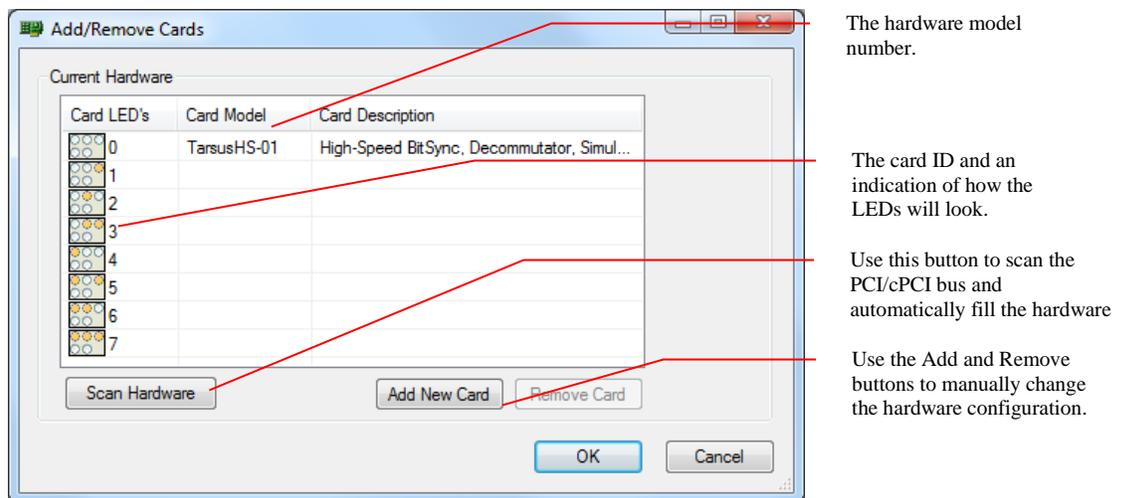

Figure 31 – Add/Remove Cards
1. From the ALTAIR main screen, click on the Add/Remove Cards on the Hardware explorer docking window. The Add/Remove Cards screen will be displayed. (See Figure 31 – Add/Remove Cards.)